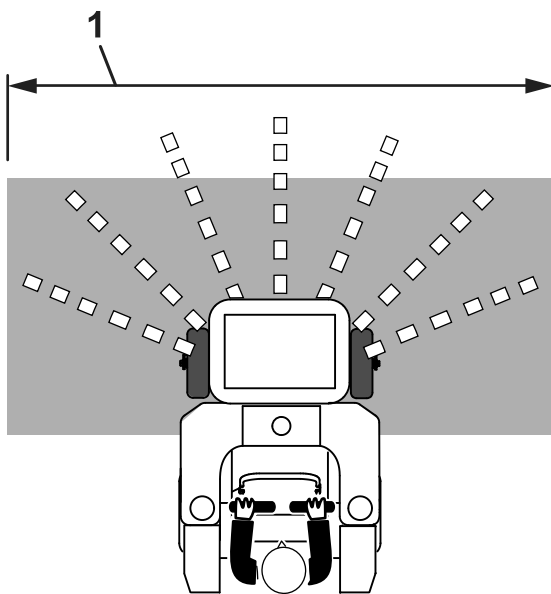

Figure 29
4. Open the hopper-door control to begin spreading the granular material (Figure 29).